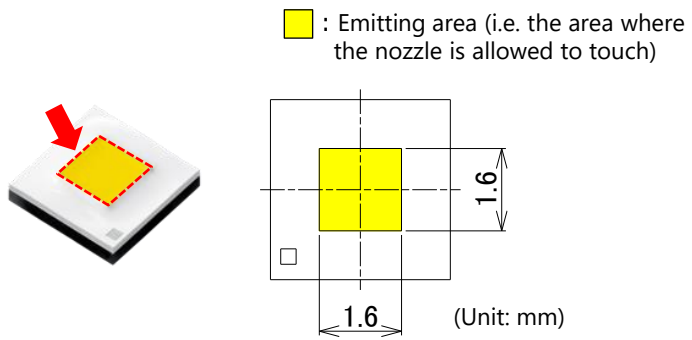

Figure 2. LED Pick-up Position
1. Pick up the LED at the center of the emitting area (1.6mm×1.6mm); see Figure 2.